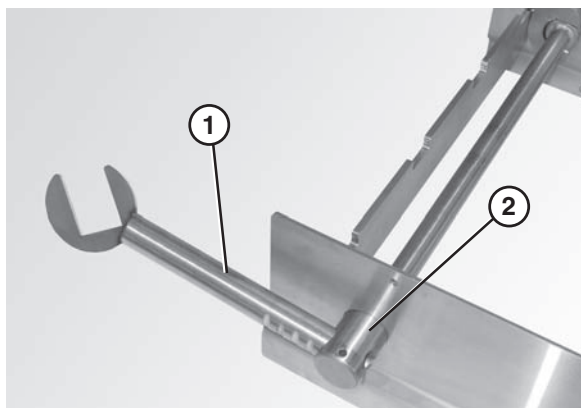

Figure 21
3. Attach nose bar idler shaft hands (**Figure 21, item 1**) to the tip up shaft (**Figure 21, item 2**).